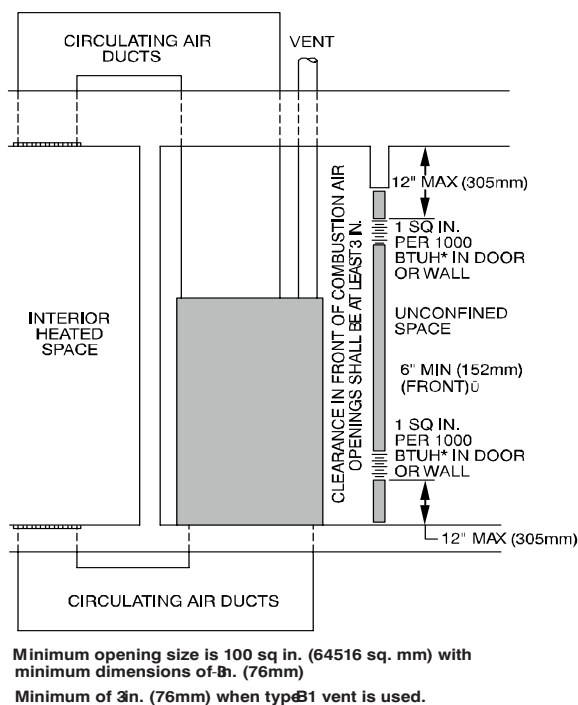

Fig. 7 – Air for Combustion, Ventilation, and Dilution from Indoors ^{L12F013}
- b. Combining spaces on same floor level. Each opening shall have free area of at least 1 in.²/1,000 BTUh (2,000 mm²/kW) of the total input rating of all gas appliances in the space, but not less than 100 in.² (0.06 m²). One opening shall commence within 12 in. (300 mm) of the ceiling and the second opening shall commence within 12 in. (300 mm) of the floor. The minimum dimension of air openings shall be at least 3 in. (80 mm) (Fig. 7).